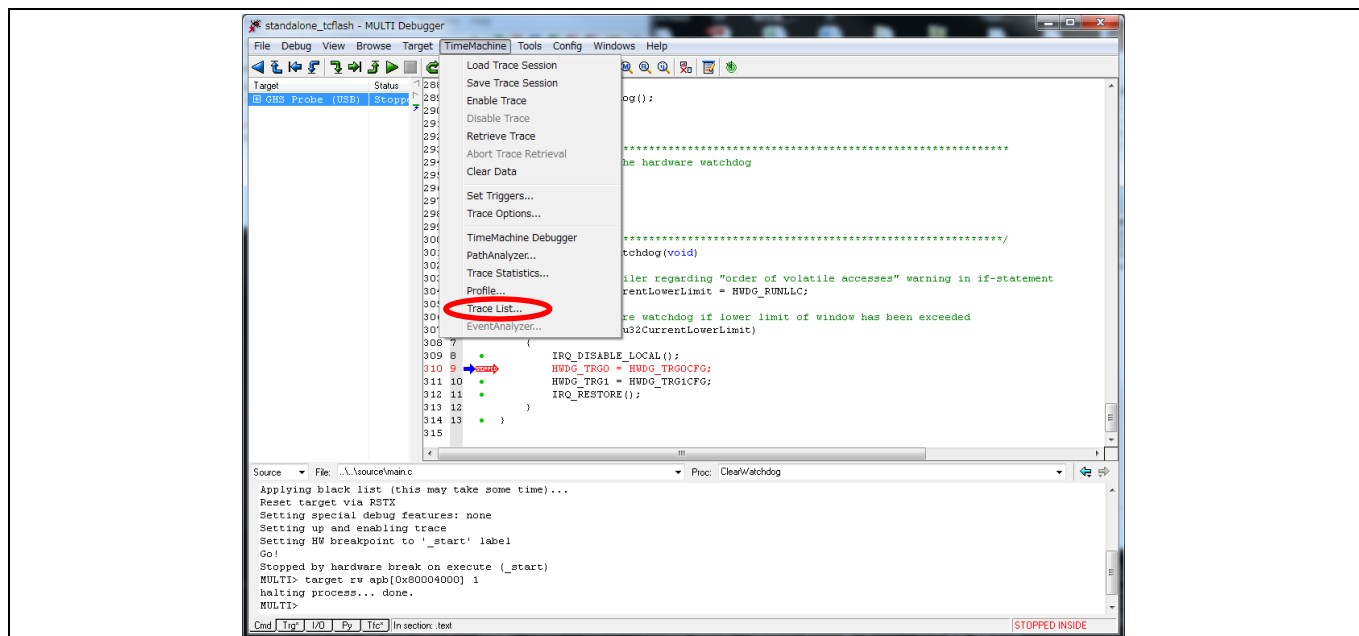

Figure 18 Open Trace List
2. Click the **TimeMachine** tab and select **Trace List...**, as shown in Figure 18.